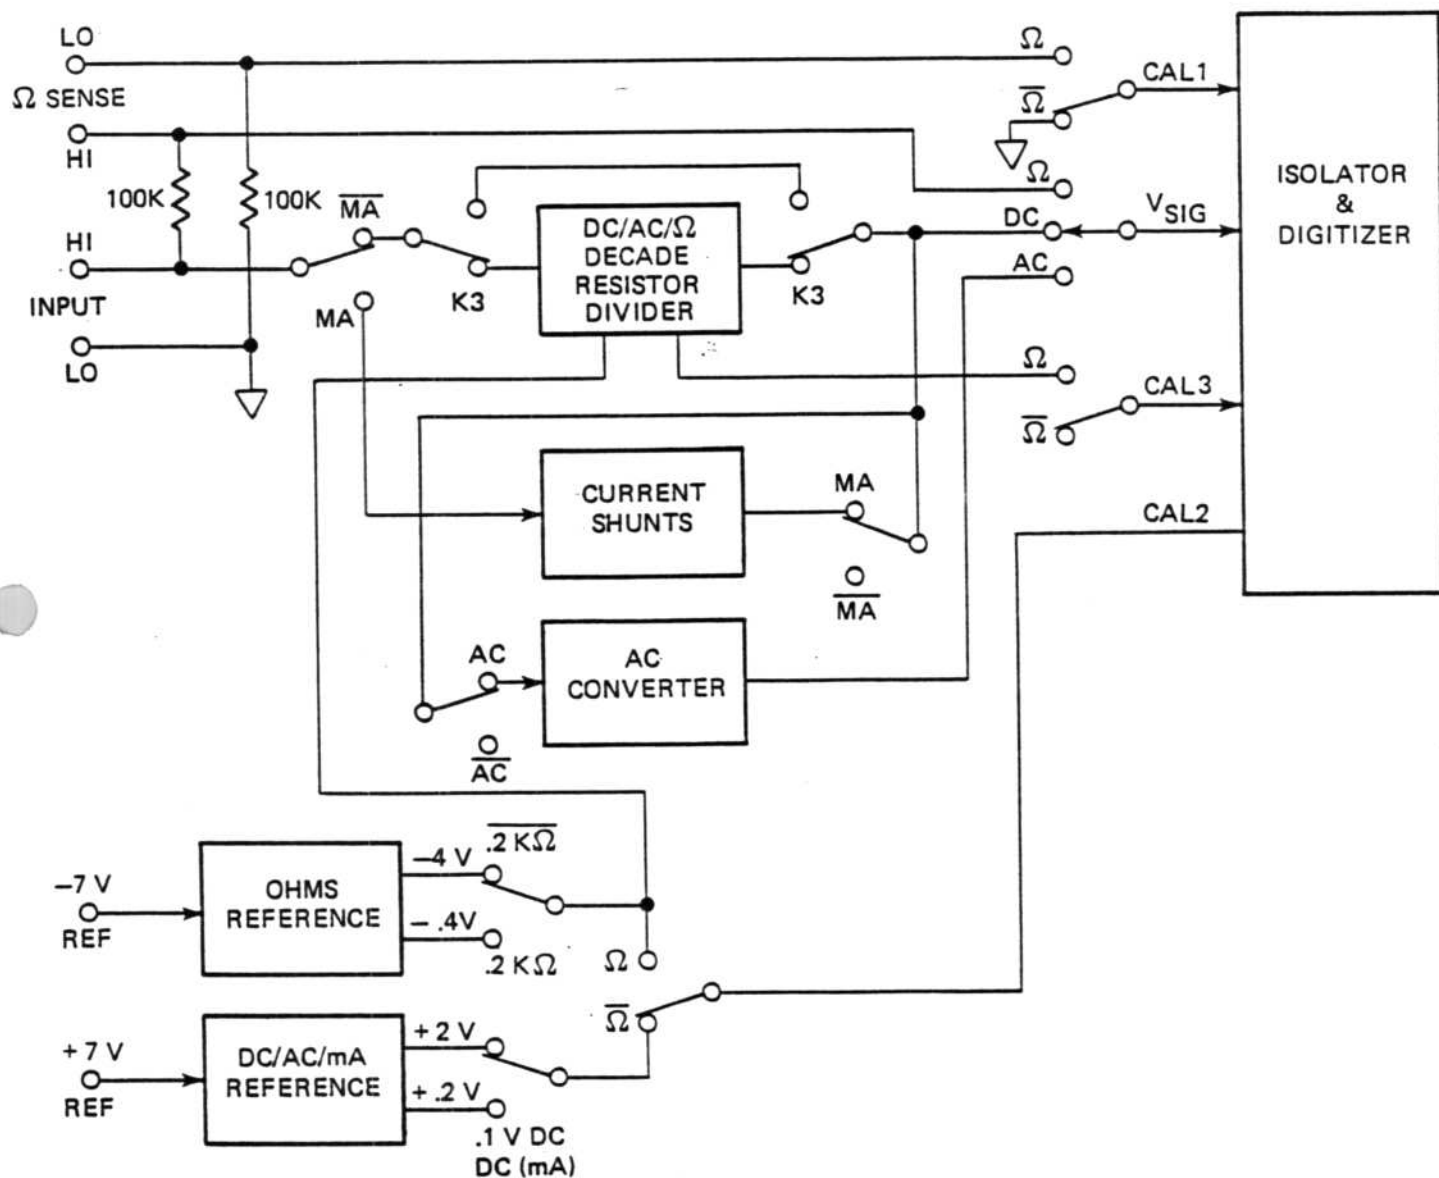

Figure 4.3 - 5001 Analog Signal Conditioning Block Diagram
4.4.1.2 Refer to Figure 4.3 showing the 5001's analog signal conditioning circuitry. Observe that three of the 5001's five measurement functions (DC Volts, AC Volts and Ohms) use a common decade resistor divider and relay network to generate the correct range for each selected function. A +7 reference voltage (+7V REF in Fig. 4.3) provides the +2 volts and +0.2 volts for DC, AC and mA functions. A -7 reference voltage (-7V REF in Fig. 4.3) provides both -4 volts and -0.4 volts for the ohms source.